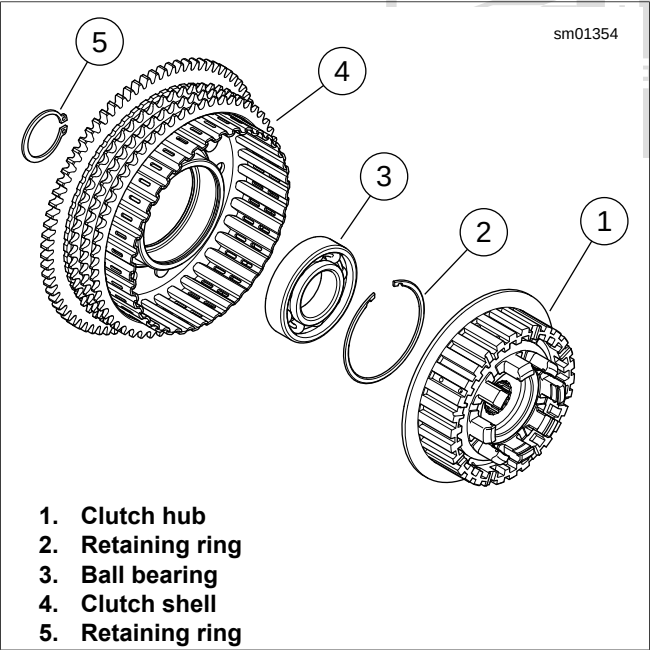

Figure 5-14. Clutch Hub and Shell Assembly
- See Figure 5-14. Assemble the clutch hub (1) and clutch shell (4):
- Press a **new** ball bearing (3) into clutch shell.
- Secure the bearing with a **new** retaining ring (2).
- Secure with a **new** retaining ring (5) on end of hub.